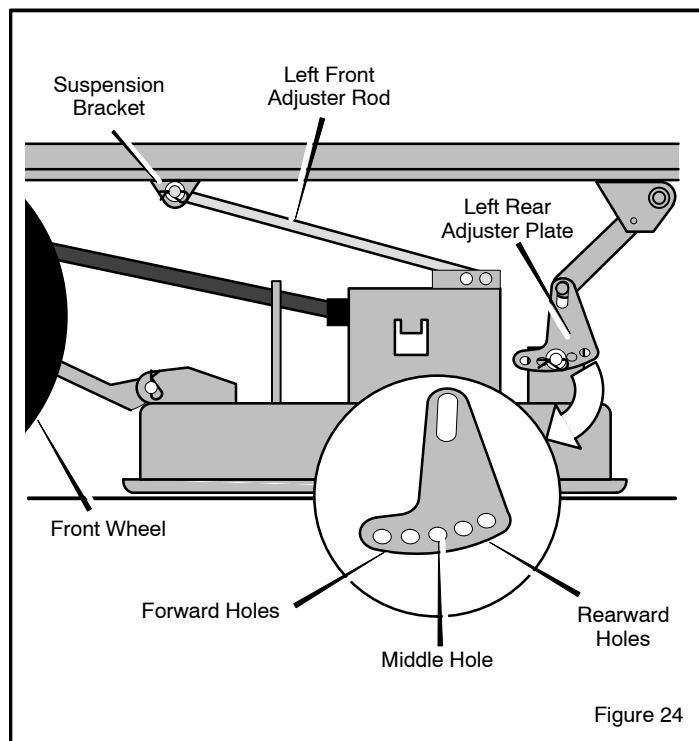

Figure 24
5. Remove the pin and washer that secure the **left rear adjuster plate**. Remove the **left rear adjuster plate** from mower housing. (Figure 24)
8. Remove the pin and washer that secure the **left front adjuster rod**. Remove the **left front adjuster rod** from the **suspension bracket**. (Figure 24)
12. Install the **left rear adjuster plate**, using the **middle hole**, to the mower housing (see Figure 24). Secure the **left rear adjuster plate** with the washer and pin removed in *Step 5*.